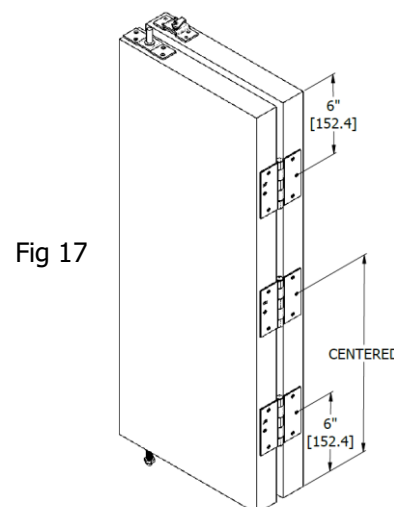

Fig 17
- Secure the hinges with (#10x3/4") screws (Fig 17)